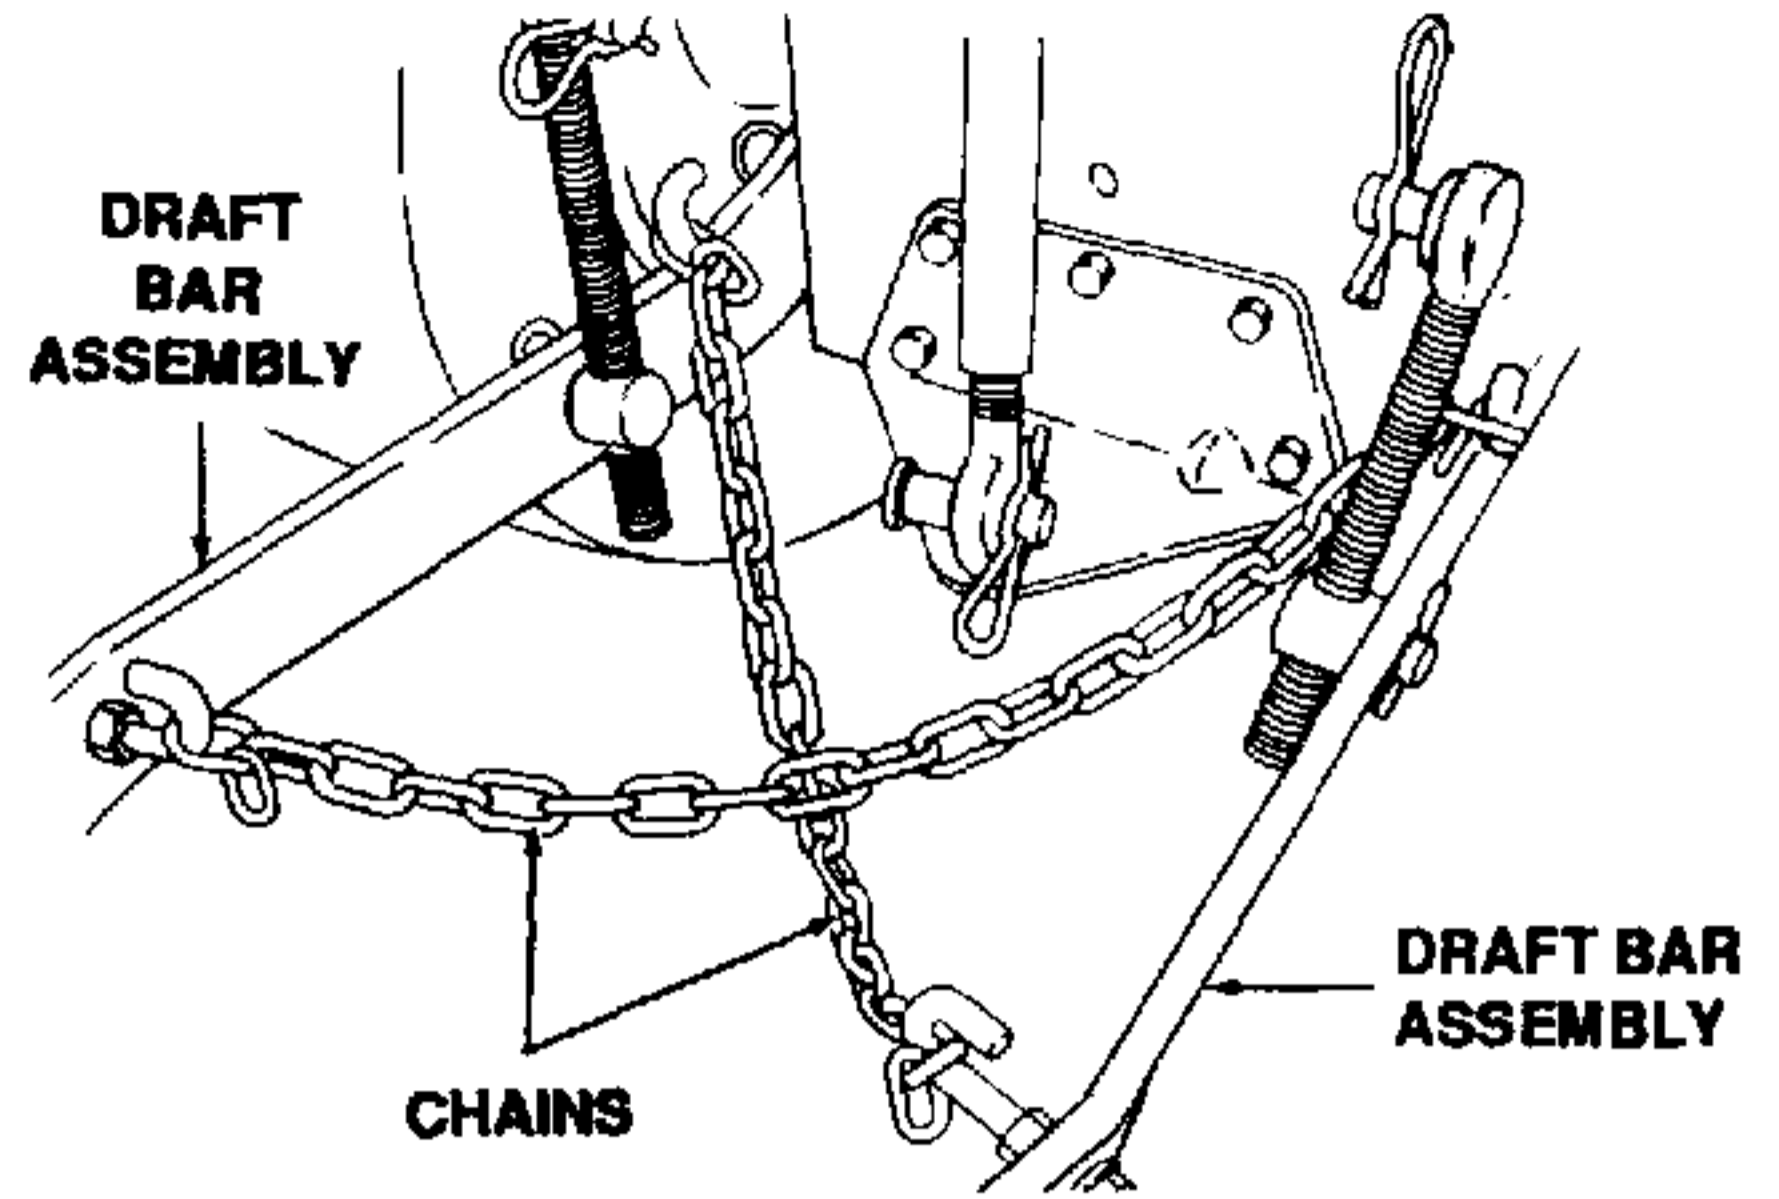

Figure 7-63. Attaching Chains to Draft Bar Assemblies.
12. Attach chains (20, Figure 7-40) to hooks on draft bar assemblies as shown in Figure 7-63.